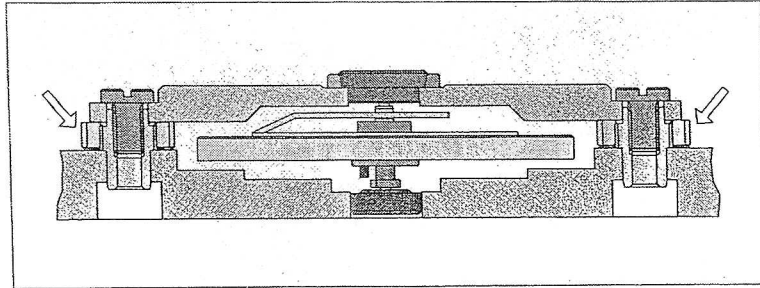

Fig. 7
2.17. Check the balance endshake, which can be corrected by means of the 2 regulating nuts for balance bridge, see Fig. 7.